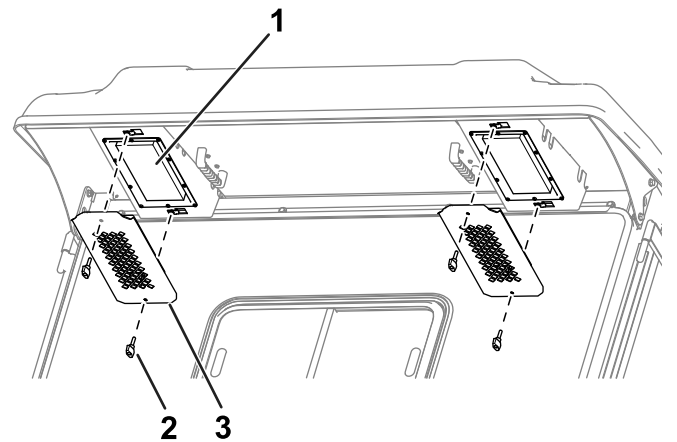

Figure 86
1. Remove the knobs and grates from the cab rear overhang (Figure 86).
4. Use the knobs and grates to install the filters into the cab (Figure 86).